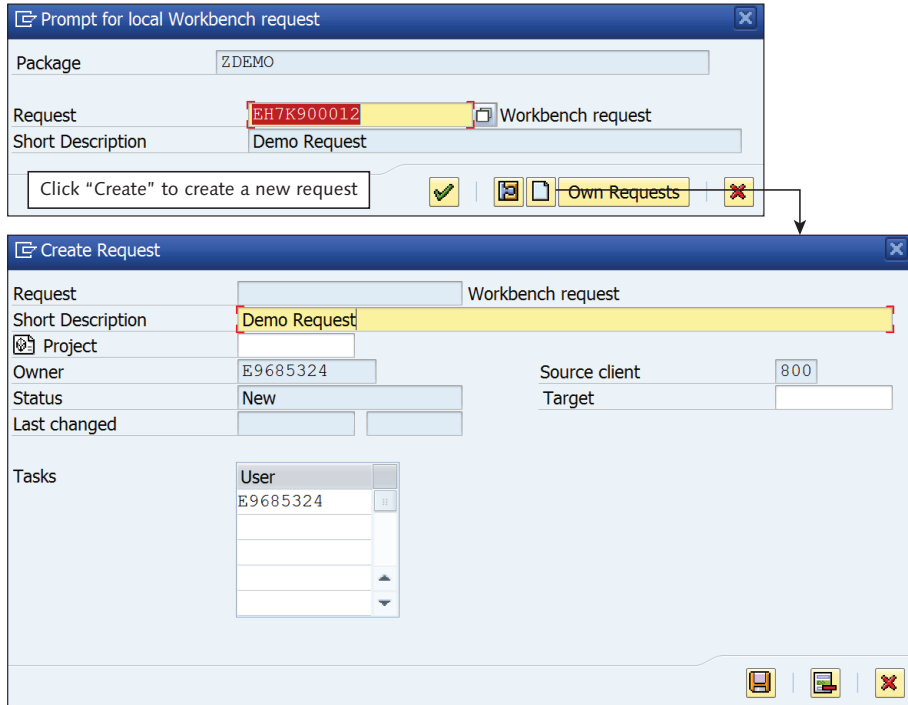

Figure 2.14 Creating a Request
5. In the dialog box that appears, assign a transport request to save the package. You can either assign an existing transport request by clicking the OWN REQUESTS button or create a new request, as shown in Figure 2.14. To create a new request, simply select the CREATE icon. This will open the CREATE REQUEST dialog box, where you can fill out the fields for your new request.